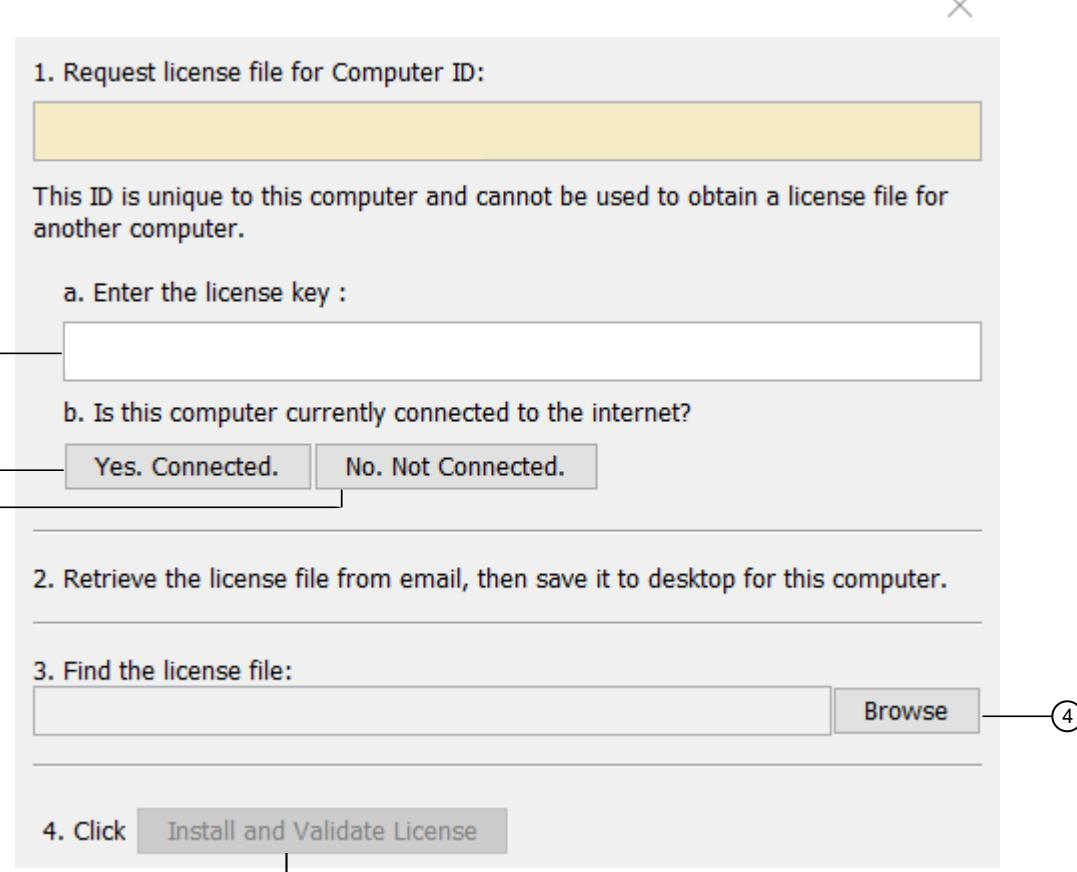

Figure 4 Activation window
1. In the **Enter the license key** field (see Figure 4), enter the SDB license key that you received via email.
2. Click **Yes. Connected** (see Figure 4).
1. In the **Enter the license key** field, enter the SDB license key that you received via email, then click **No. Not connected** (see Figure 4 on page 31).
a. Click **Browse** to navigate to the **CapabilityResponse.bin** file (see Figure 4 on page 31).
b. Click **Install and Validate License** (see Figure 4 on page 31).